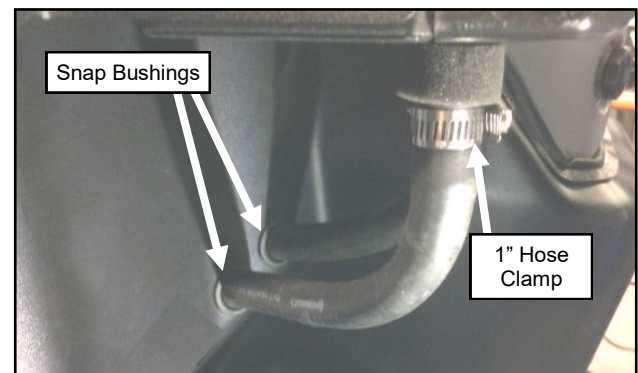

Fig. 17.2 (Heater Hose Routing)
- 17.2** Snap provided 3/4" bushings into the plastic radiator shroud from the inside. Cut (2) 17" pieces of the provided 5/8" diameter heater hose. Slide (2) 1" hose clamps on the end of the (2) cut hoses. Slide the hoses onto the end of the (2) heater nipples and tighten down the hose clamps. Next, slide the (2) hoses through the snap bushings. Make sure not to kink the hose. See Figure 17.2.